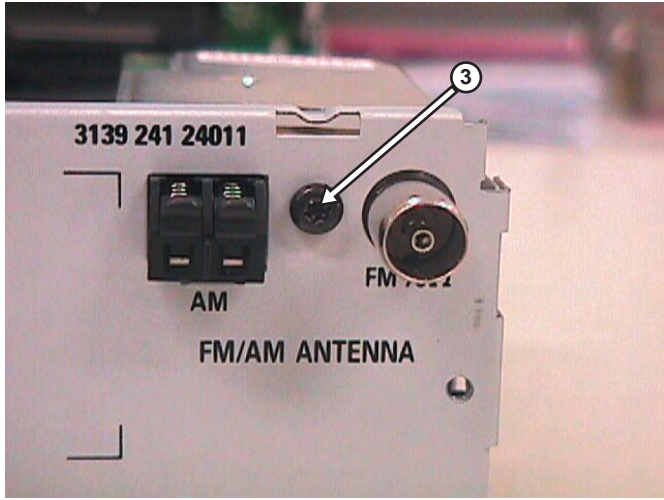

Figure 4-5
- 1) Loosen 1 screw (See Figure 4-5) to remove the Tuner Module.